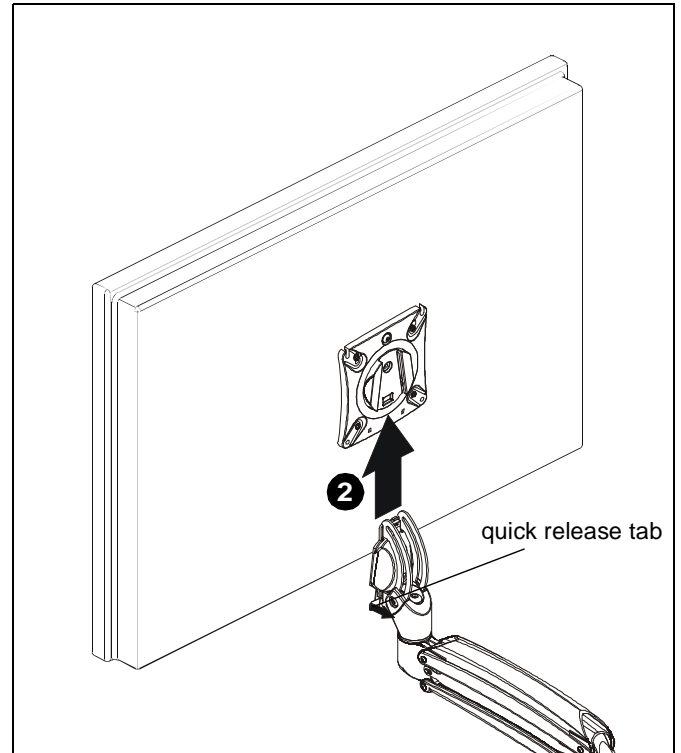

Figure 9
WARNING: Only remove display from mount when the display can be lifted up from the mount! **DO NOT** remove display unless the display is in the upright position! (See Figure 9)
2. Remove quick release faceplate from mount by pulling quick release lever and sliding faceplate off mount. (See Figure 9)